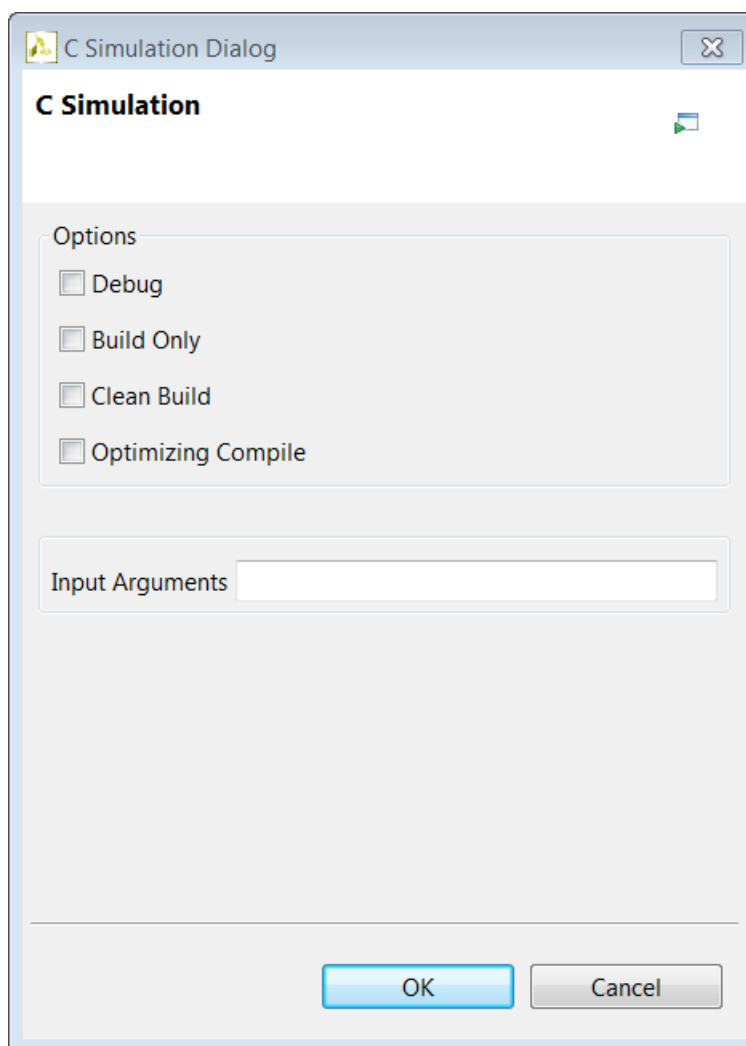

Figure 36: Run C Simulation Dialog box
2. Click the **Run C Simulation** toolbar button to open the C Simulation Dialog box, shown in **Figure 36**.